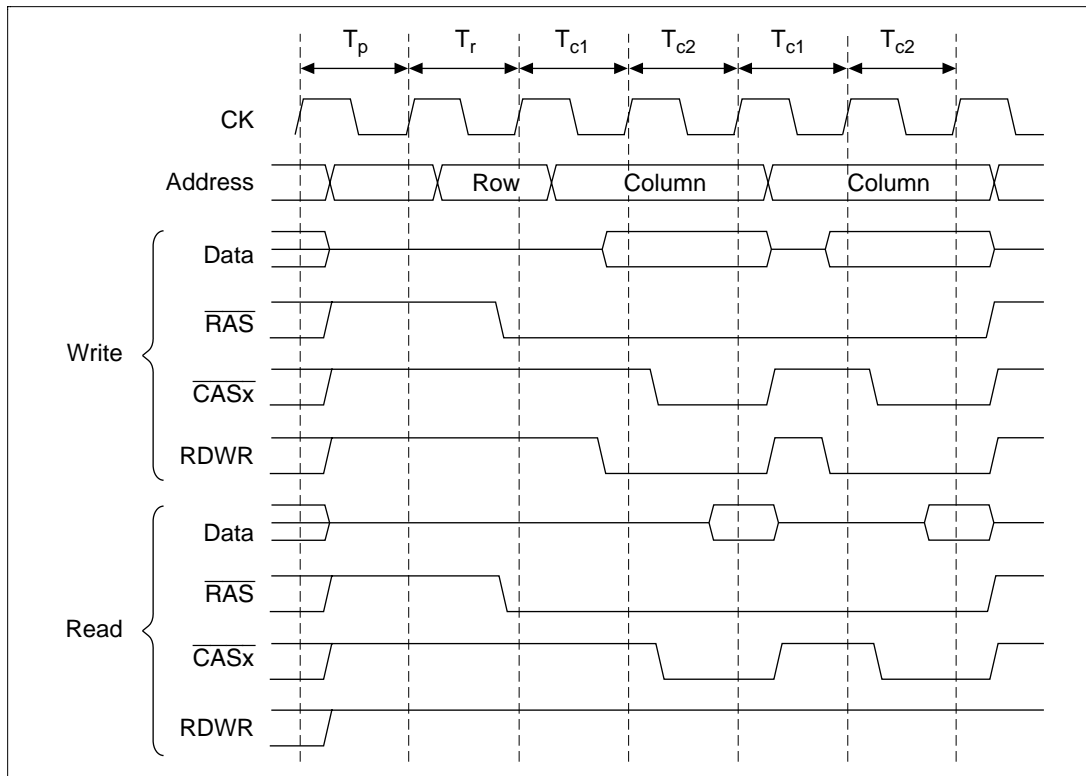

Figure 10.12 DRAM Bus Cycle (High-Speed Page Mode)
High-Speed Page Mode: When the burst enable bit (BE) of the DCR is set, burst accesses can be performed using high-speed page mode. The timing is shown in figure 10.12. Wait cycles can be inserted during burst accesses by using the DCR.